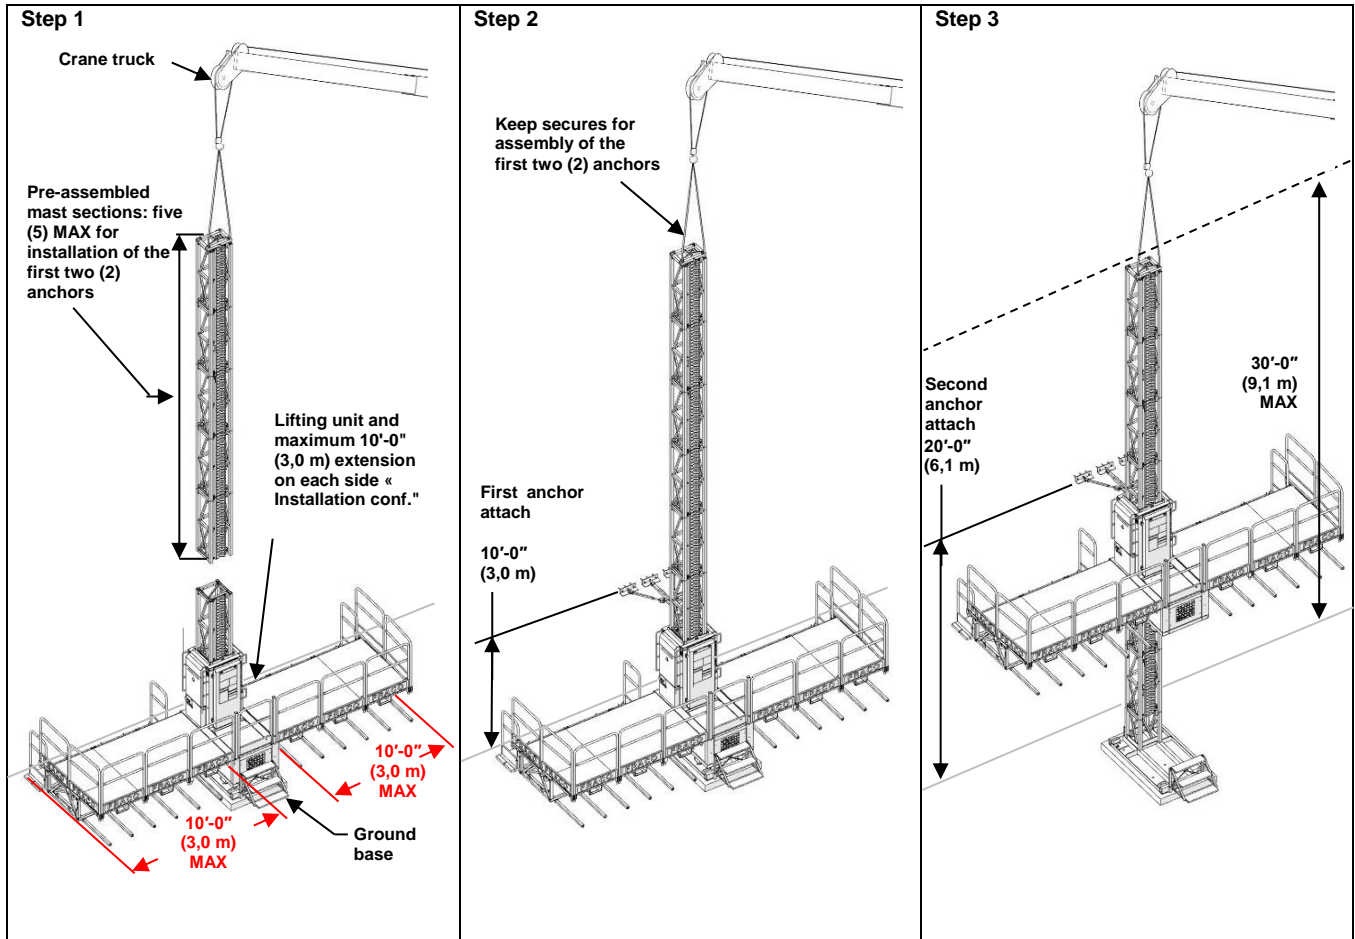

Figure 74 - Installation of masts and anchors, ground base
- Unbolt and remove the mast sections using an independent lifting equipment (crane, crane truck or forklift truck) following the same instructions as for the installation (see Figure 74). Dismantle up to **MAXIMUM** 40'-0" (12,2 m) [8 mast sections] mast sections at a time for all anchors located above the first two (2) mast sections.